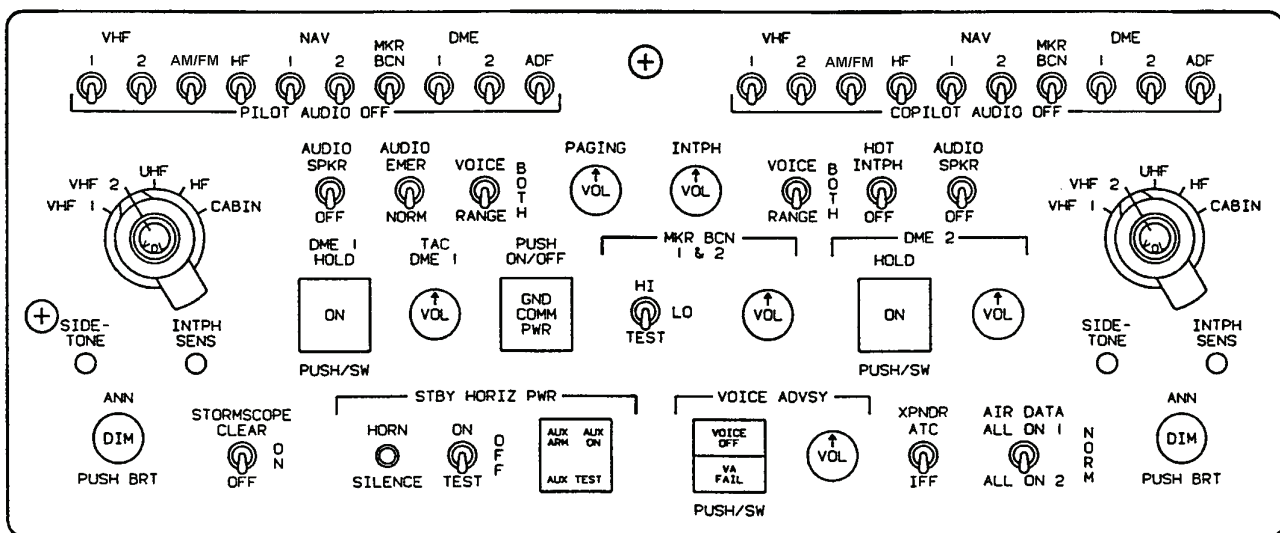

Figure 3A-1. Audio Control Panel
b. Audio Control Panel Controls and Functions. Refer to Figure 3A-1.